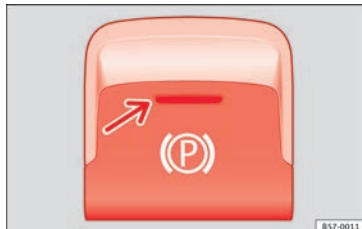

Fig. 180 In the lower part of the centre console: electronic parking brake button.
- Pull and hold the (P) » Fig. 180 button.
- The parking brake is activated when the control light of the » Fig. 180 button (arrow) and the red (P) control light of the display in the dash panel are on.
- Press the button (P) » Fig. 180. At the same time step hard on the brake pedal or, if the engine is running, press the accelerator pedal slightly.
- The control light of the » Fig. 180 button (arrow) and the red (P) control light of the display in the dash panel go out.
pulling up the  **Fig. 180** switch when starting off.
- Pull and hold the  **Fig. 180** button in this position to **forcefully** stop the vehicle. At the same time, an acoustic warning can be heard.